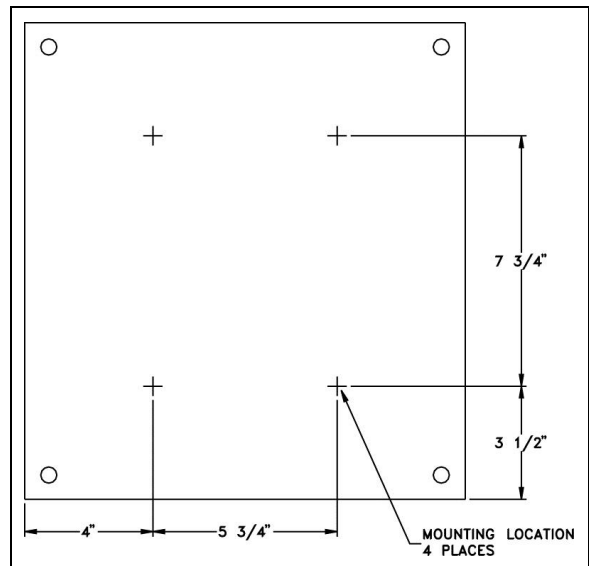

Figure 3: Template for Electronics Module
3. Using template (Figure 3) locate and drill mounting holes for AOC module.